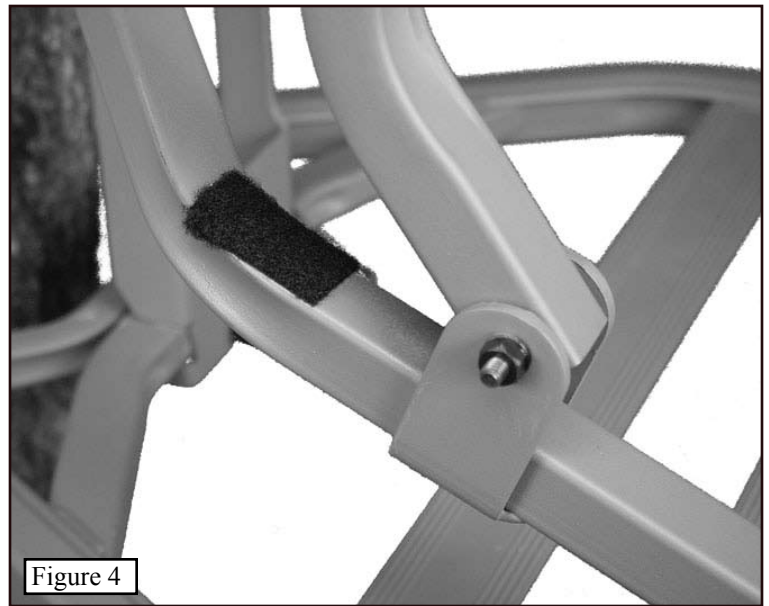

Figure 4
**Step 4.** Rotate the Seat Support Tube back against the arms. Note the position where the Support Tube makes contact with the arm. Apply the short self adhesive piece of Velcro to this spot as shown in **Figure 4**. This will keep the Seat Tube from making noise against the arms.